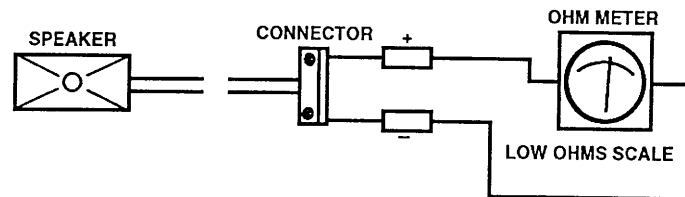

Figure 49
- Step 4 Check the speaker using the OHM meter. The reading should be 5 to 10 OHMS see Fig. 49 above.